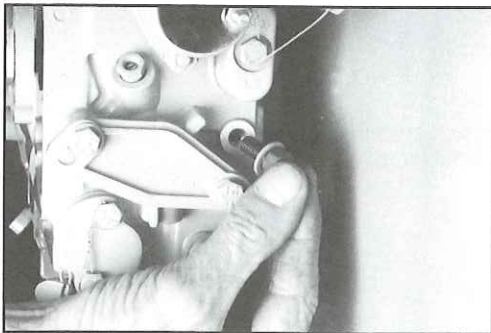

Fig. 47
1. Remove the fuel pump low idle screw. See Fig. 47. Install the seal, washer and locknut from the low idle screw on the switch.